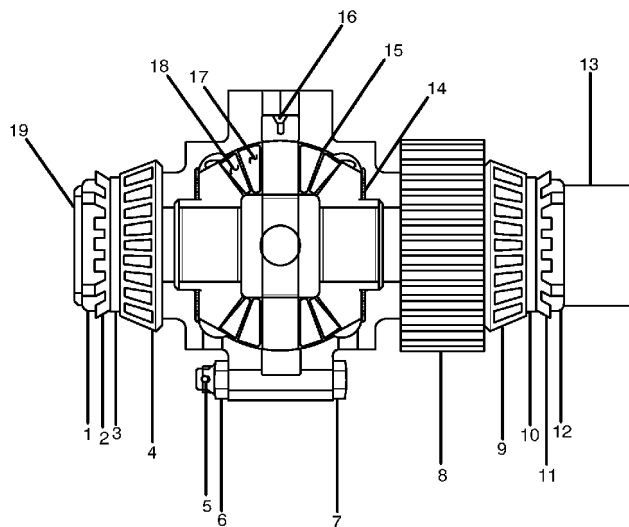

Figure 4. Bevel Gear Differential Assembly.
Legend for Figure 4.
- (1) Straighten tangs of locking washers (Figure 4, Items 2 and 11), remove pat locknuts (1 and 12), locking washers (2 and 11), and spacers (3 and 10) from bevel gear differential case (13 and 19).
- (2) With the use of a puller, remove bearing cones (Figure 4, Items 4 and 9) and gear (8) from bevel gear differential case (13 and 19).
- (3) Remove eight cotter pins (Figure 4, Item 5), castle nuts (6) and capscrews (7) from bevel gear differential case (13 and 19).
- (4) Remove two thrust washers (Figure 4, Item 14, two side gears (18), four pinion thrust washers (15), four pinions (17), and spider (16) from bevel gear differential case (13 and 19).